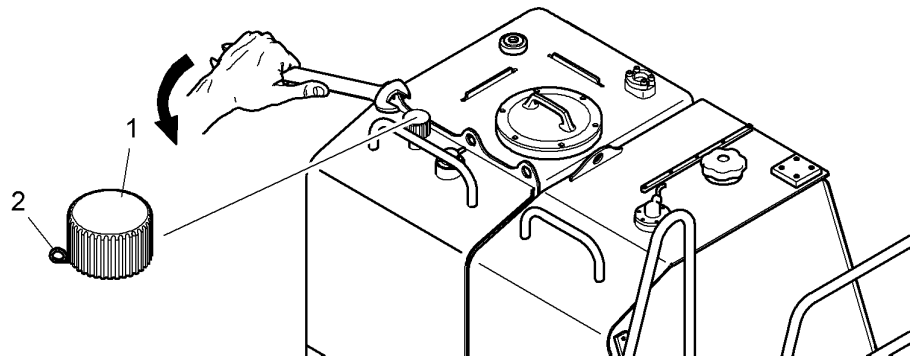

Fig. 5-43 Hydraulic system pressure, breather filter
- ▶ Replace the filter **1** with the safety pin **2** (see Fig. 5-43) at each hydraulic oil change.